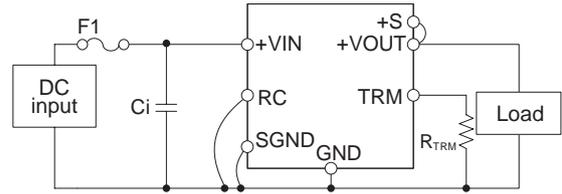
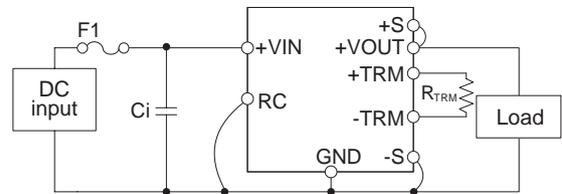

Fig.2.1 Connection for standard use of BRFS30
Fig.2.2 Connection for standard use of BRFS50
■In order to use power supply,it is necessary to wire as shown in Fig.2.1 and Fig.2.2.